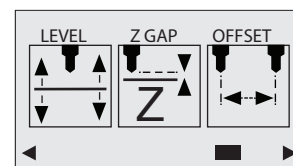
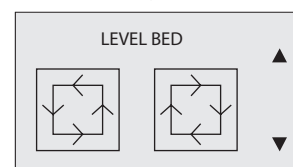

Fig. 26
Fig. 27
1. Scroll to the LEVEL menu and select. (Fig. 26) Tap on the clockwise and counterclockwise position and observe the print jet's print jet tip moves around the print pad from the side of pad. (Fig. 27)